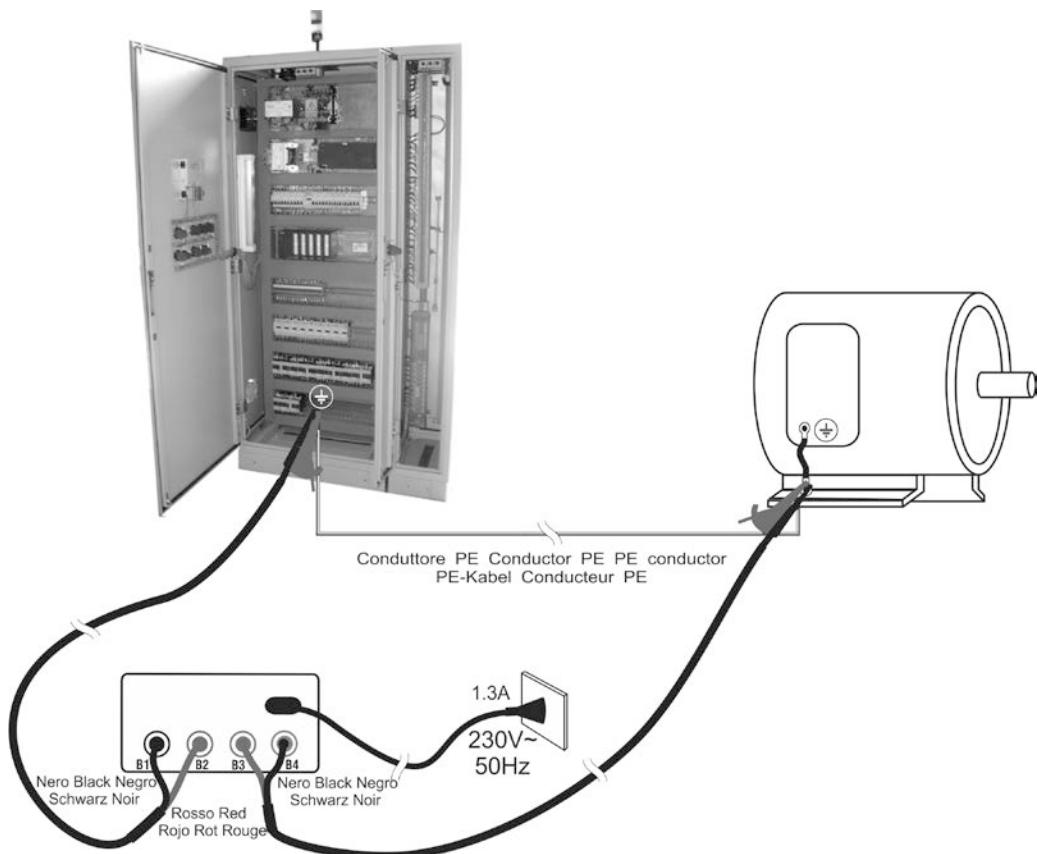

Fig. 6: Instrument connection for **LOWΩ10AE204** test
- Connect the connectors of the measuring cables C7000 provided to the instrument's input terminals **B1** (Black), **B2** (Red), **B3** (Red), **B4** (Black) and the alligator clips to the item to be tested as indicated in Fig. 6